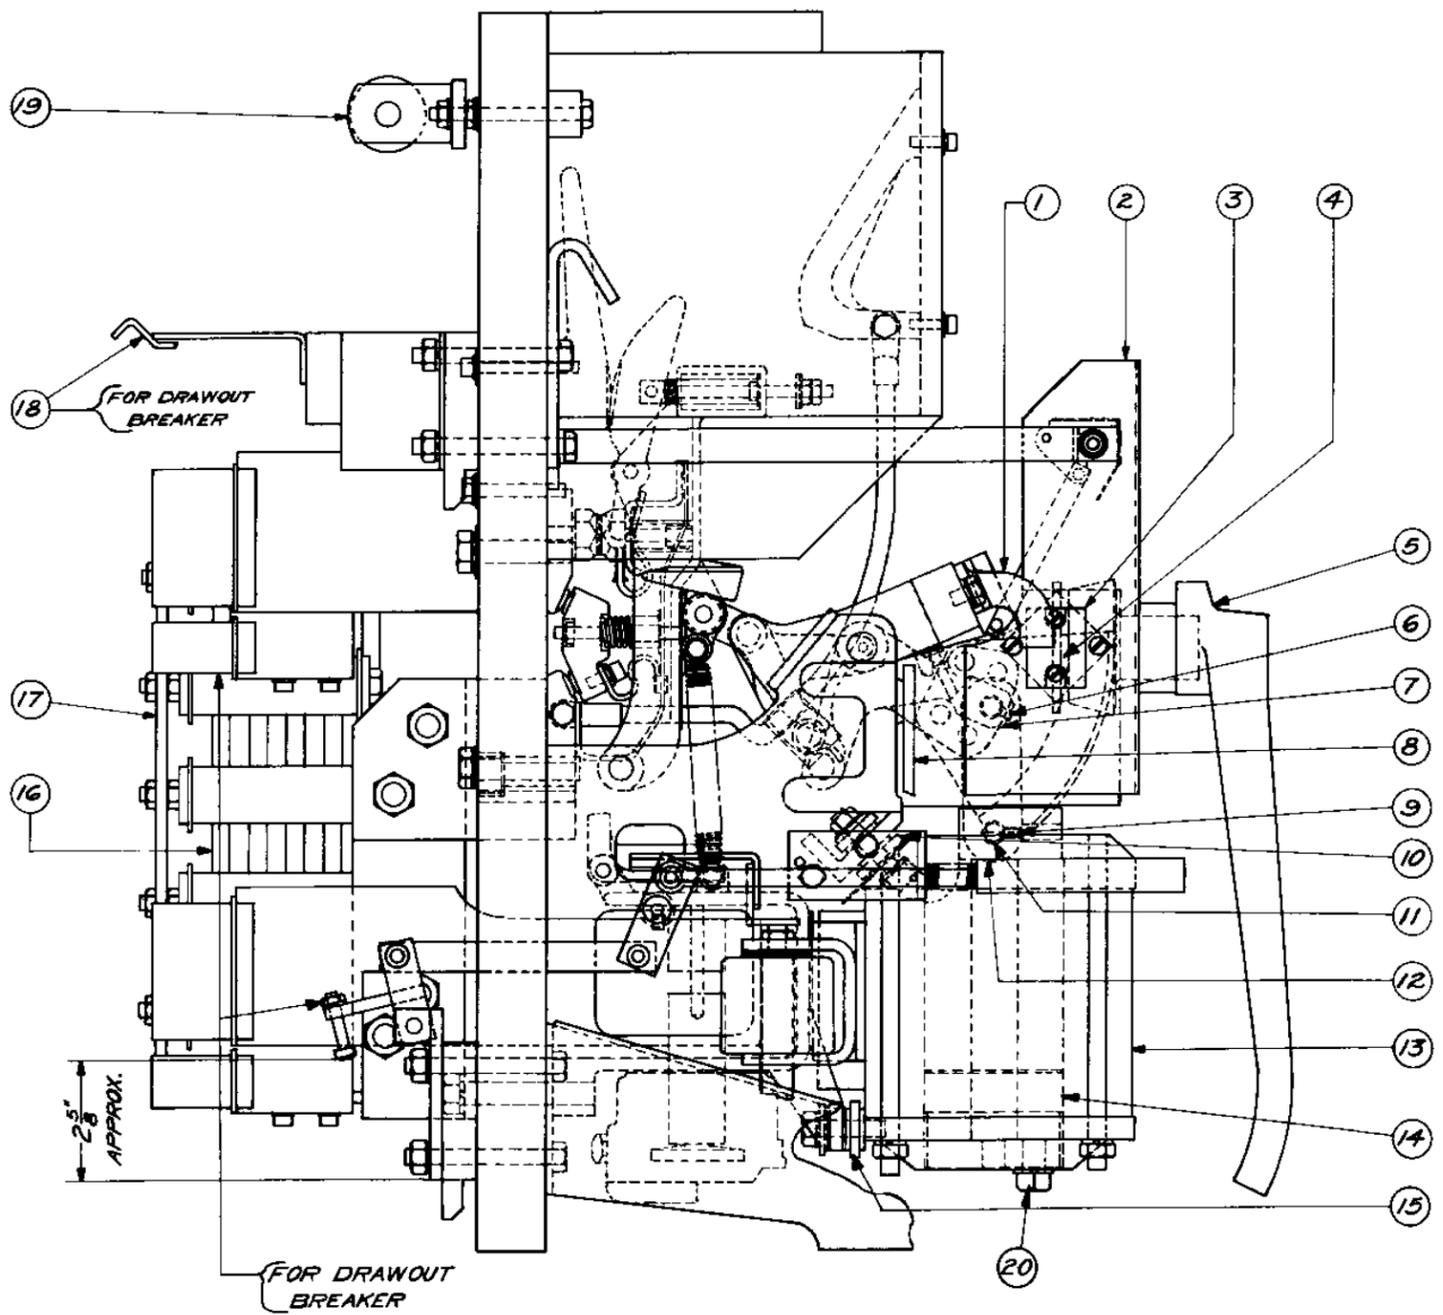

Fig. 3
- Fig. 3—Electrically Operated (*Side View*)